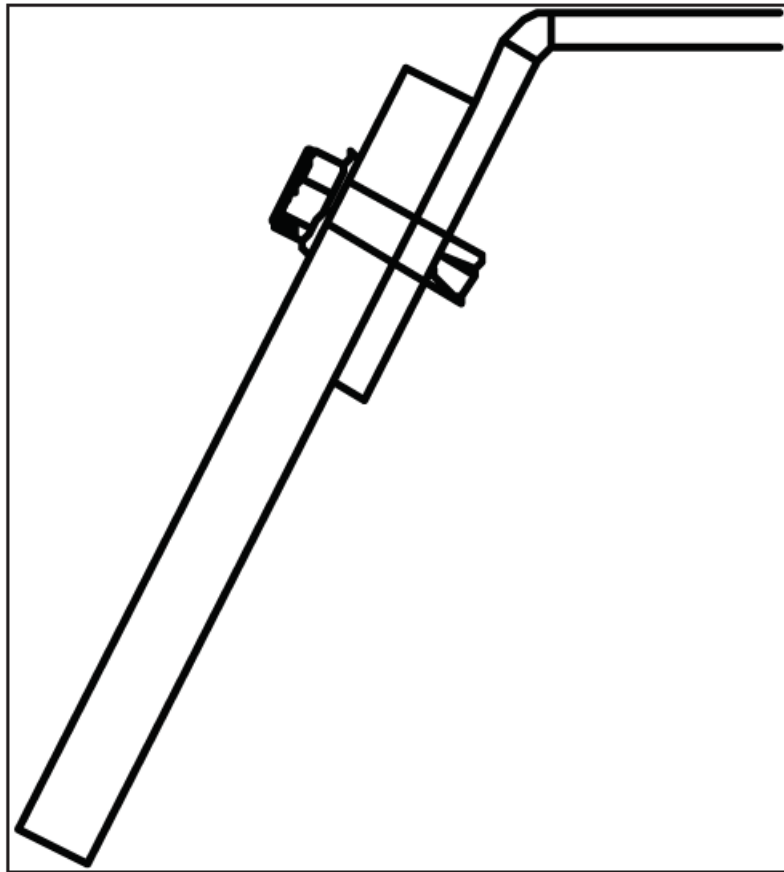

Figure 5. Snow Scraper Self-Tapping Screw
3. Install the snow scraper blades on top of the snow scraper brackets with the self-tapping screws (Figure 5).